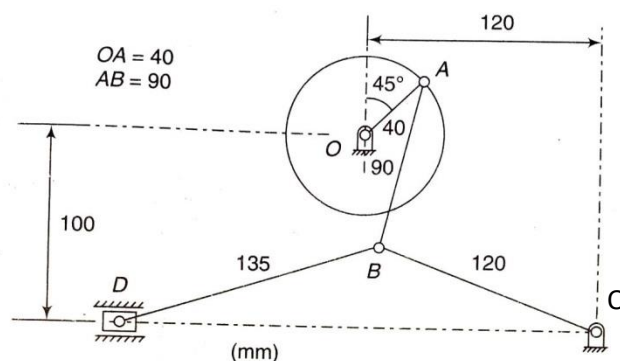

**Fig. 3b**
- b) Figure 3b shows a six-link mechanism. The dimensions of the links are:  $OA = 220$  mm,  $AB = 485$  mm,  $BQ = 310$  mm,  $BC = 590$  mm and  $CD = 400$  mm. For the position when the crank  $OA$  makes an angle of  $60^\circ$  with the vertical, find the velocity of the slider  $D$ . The crank rotates clockwise at 150 rpm.